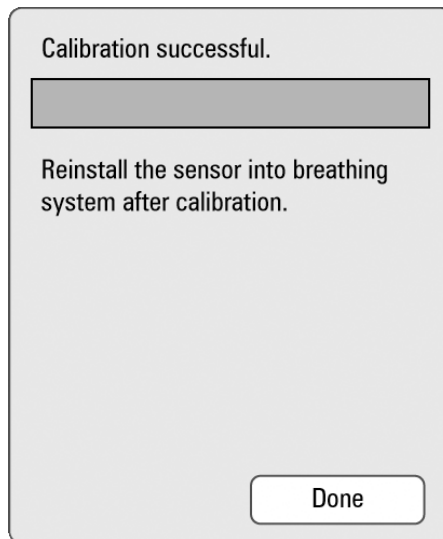

FIGURE 2-18 Oxygen Sensor Calibration Successful
- **If the calibration is successful**, the screen shown in FIGURE 2-18 will be displayed, instructing the user to reinstall the oxygen sensor into the Breathing System. Select the **Done** button to complete the process.